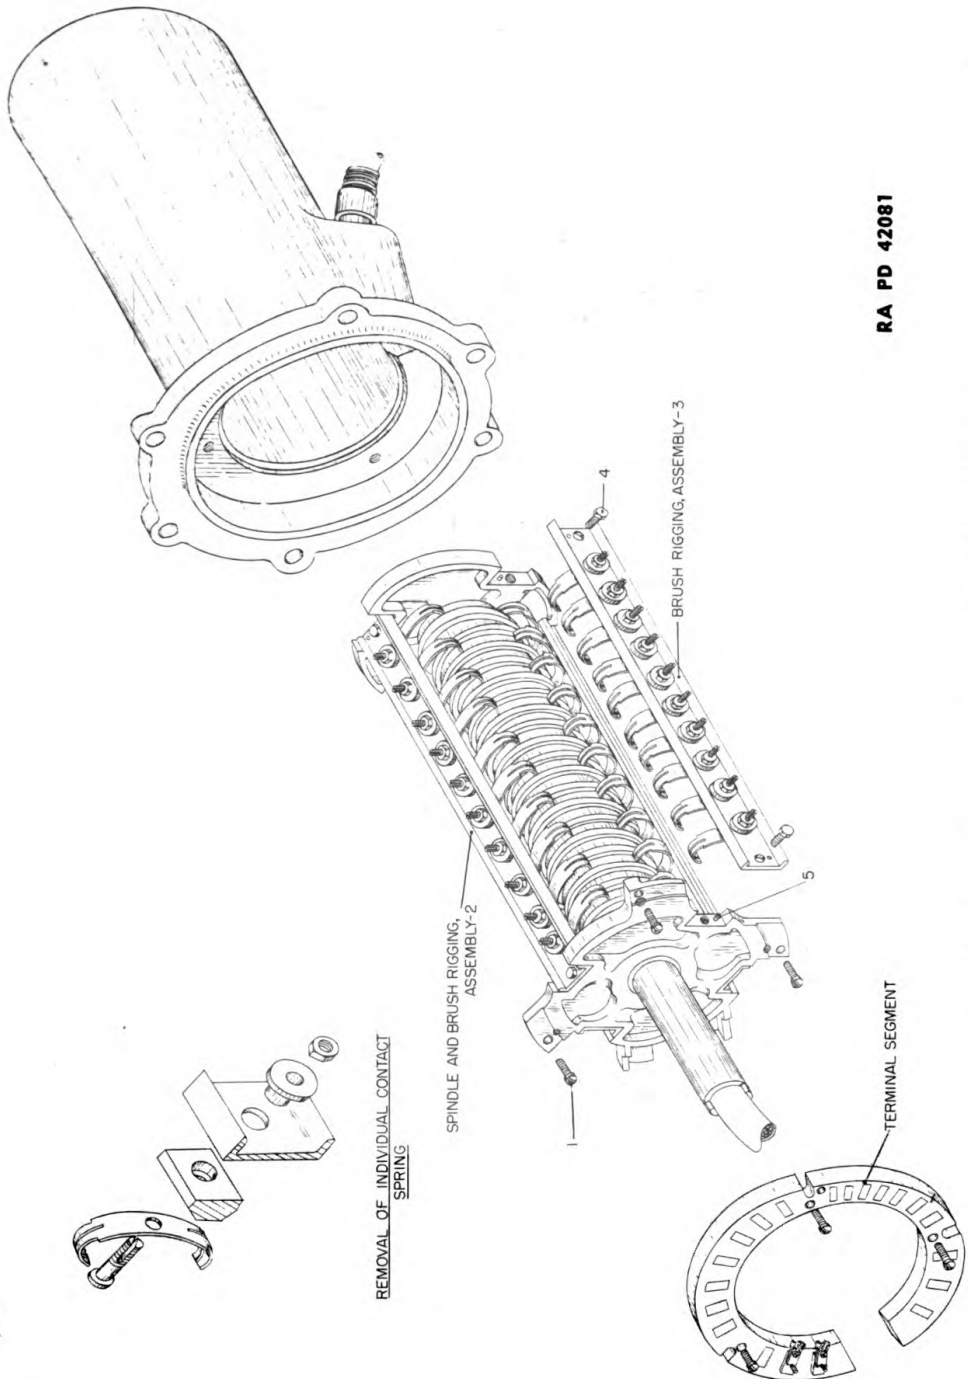

Figure 60 — Disassembly of Contact Ring
50. DISASSEMBLY OF CONTACT RING (fig. 60).
b. Remove the three screws (1, fig. 60) in the edge grooves of the terminal segment. Lift the spindle and brush rigging assembly (2) out of the housing. All internal working parts will then be accessible for cleaning or further disassembly.
c. To remove an individual brush rigging assembly (3), remove the screw (4) at each end of the supporting channel and pry the channel